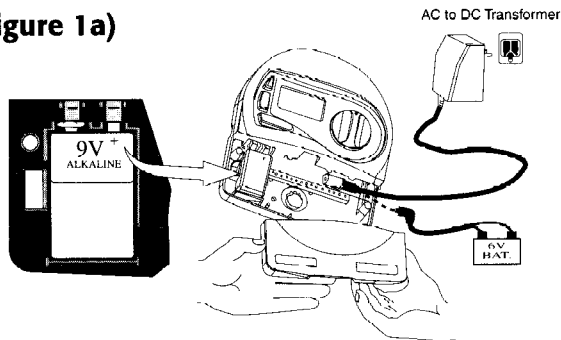
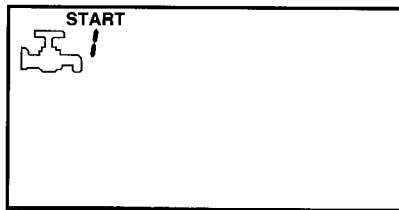

Figure 1a
Figure 1b
Energy Source Installation (see Figure 1a)
Installing the internal 9V battery: Remove the battery cover and place battery as shown in Figure 1a. Note the polarity of the battery. Once the battery is installed the Miracle DC will perform a self-Test procedure. The Miracle will not react to any key, and all valves will be given a Close command. The screen should display as shown in Figure 1b. (The word START and the Tap Symbol should flash, while the Valve No. Indicator should increase to the maximum capacity of the Miracle's model (6, 9, 12 Valves).
Installing the external 6V battery: Remove the battery cover and connect the external battery cable to the point of connection as shown in Figure 1a.
Once the battery is installed the Miracle DC will perform a self-Test procedure. The Miracle will not react to any key, and all valves will be given a close command. The screen should display as shown in Figure 1b. (The word START and the Tap Symbol should flash, while the Valve No. Indicator shows to the maximum capacity of the Miracle's model (6, 9, 12 valves).
- B. Connecting the internal 9V battery – Remove the battery cover and place a 9V battery as shown in Figure 1a. Note the polarity of the battery.